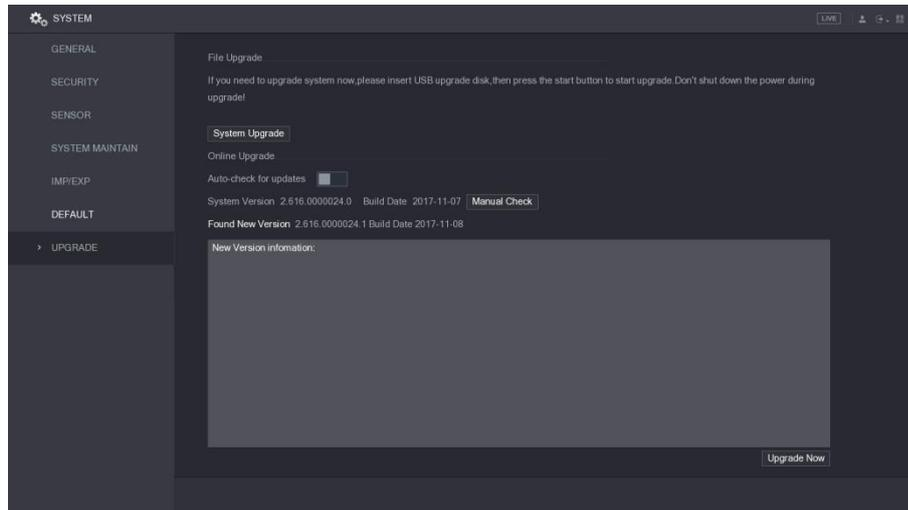

Figure 5-247
- If the text indicating there is a new version, please go the step 3. See Figure 5-247.